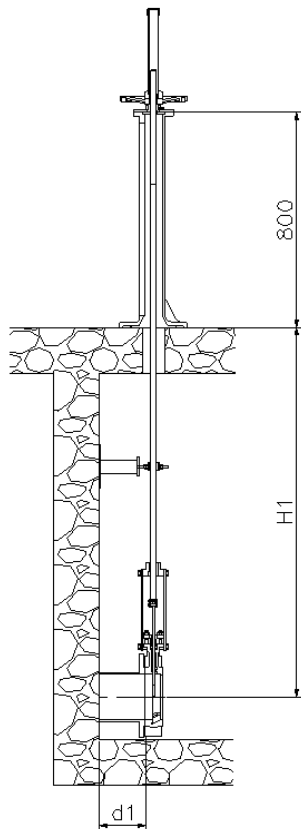

Fig. 10
- The standard floor stand is 800mm high (Fig. 10). Other floor stand measurements available on request: